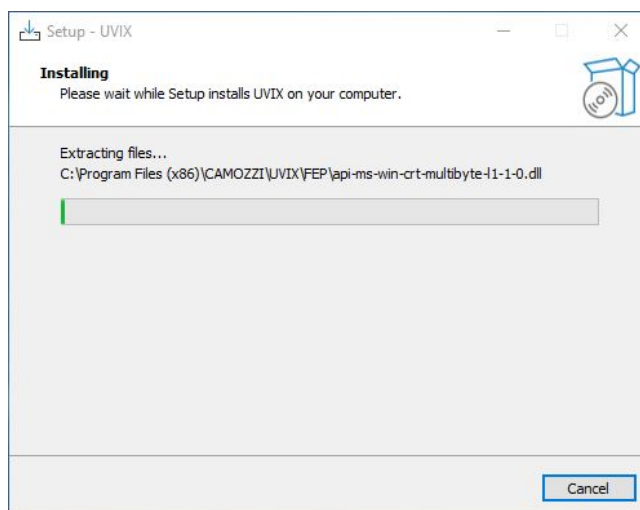

Figure 4.3: Installation
3. Wait for the installation to complete, as shown in Figure 4.3.